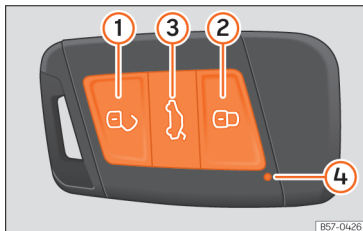

Fig. 46 Vehicle key
When a button is pressed briefly on the vehicle key, the control lamp (④) >>> Fig. 46 flashes once briefly, but if pressed for a long period of time, it will flash several times, for example, in the convenience opening.